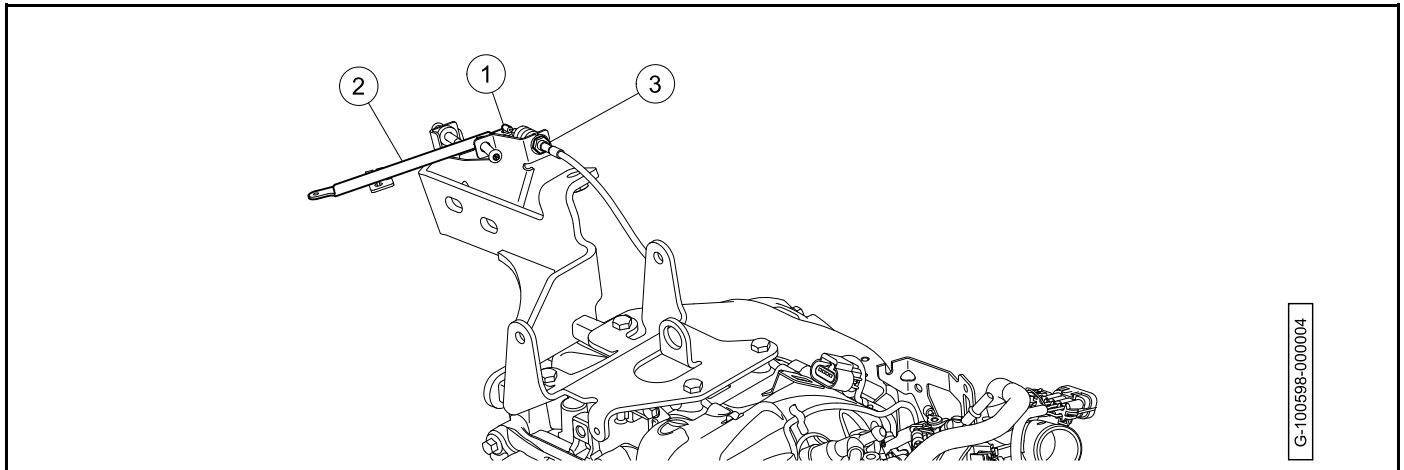

Figure 21-2 Governor Cable Removal - Governor Arm
4.1. Disconnect "Z" fitting of governor cable (1) from governor arm (2) (**Figure 21-2, Page 21-3**).